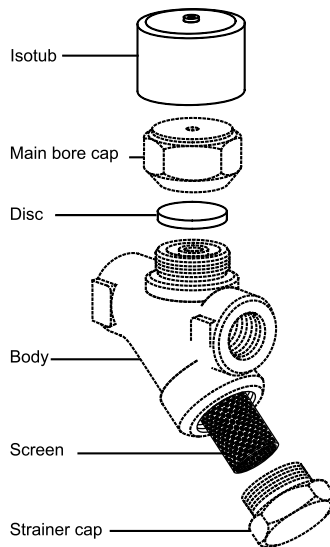

Figure 5: Parts Available as spares (Heavy outline) for FMTD64
9. Available Spares: [Refer figure 5]